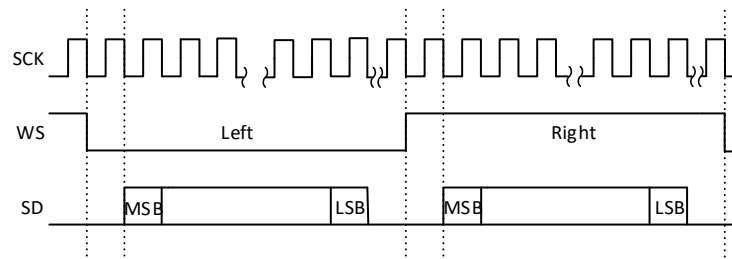

Fig 22-7 I²S Philips standard
- MSB is sent one SCK cycle after WS changes, as Fig 22-7 shows.